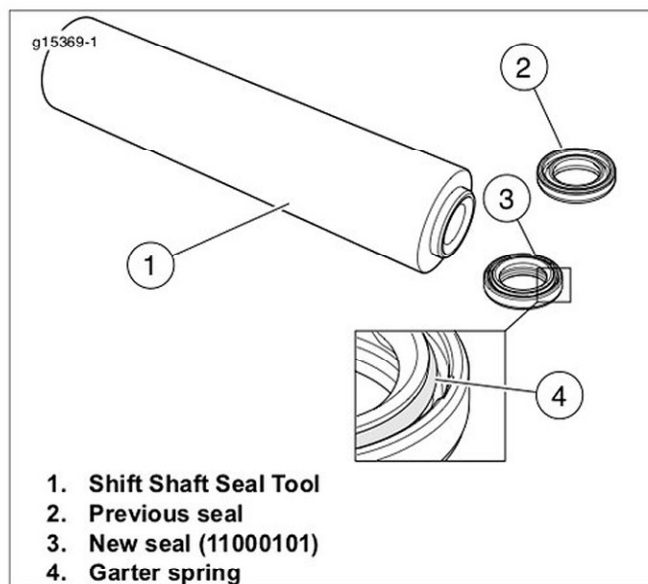

Figure 1. Shift Shaft Seal Tool (HD-51337)
See Figure 1. The new shift shaft seal (3) can be identified by the garter spring (4) on the back side of the seal.
2. See Figure 1. Obtain the shift shaft seal tool Part No. HD-51337 (1).